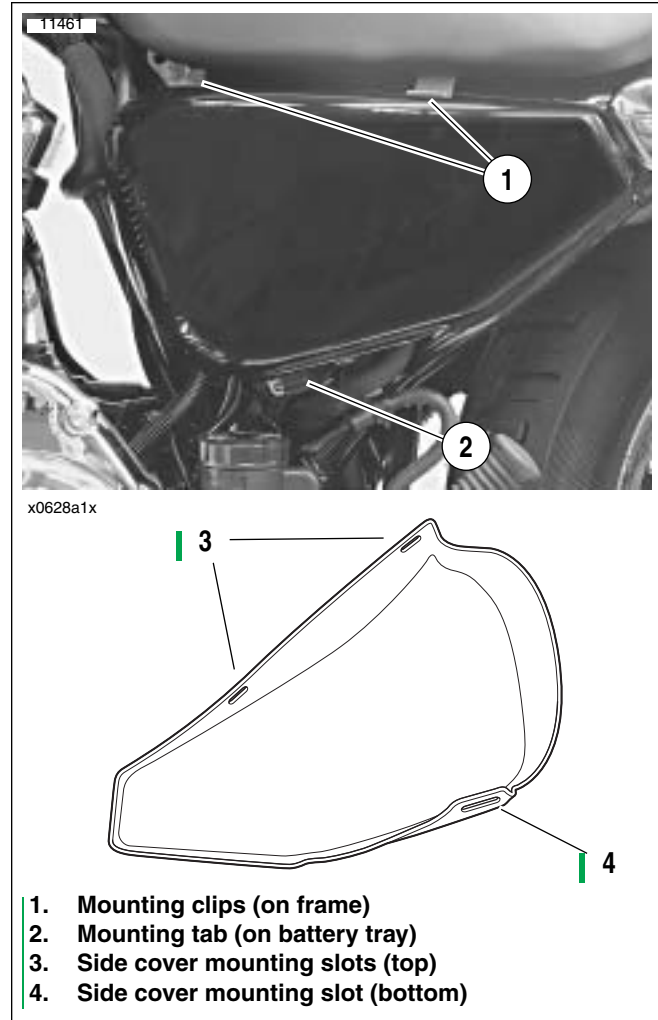

Figure 1-10. Left Side Cover
See Figure 1-10. The left side cover is secured to the motorcycle by two upper slots (3) that fit into clips (1), and a bottom slot (4) that fits onto a mounting tab (2) on the battery tray.
2. See Figure 1-10. Grasp left side cover at upper corners and gently pull away from plastic mounting clips (1) on frame.
2. See Figure 1-10. Line up top slots (3) of side cover with mounting clips (1) on motorcycle frame, aligning with front clip first. Press top of side cover into clips until snug.
1. See Figure 1-10. Grasp side cover at upper corners and gently pull away from plastic mounting clips (1) on frame.
1. See Figure 1-10. Position side cover over battery tray assembly with slot (4) in bottom of cover resting on mounting tab (2) on battery tray.
3. Line up top slots (3) of side cover with mounting clips (1) on motorcycle frame, aligning front clip first. Press top of side cover into clips until snug.